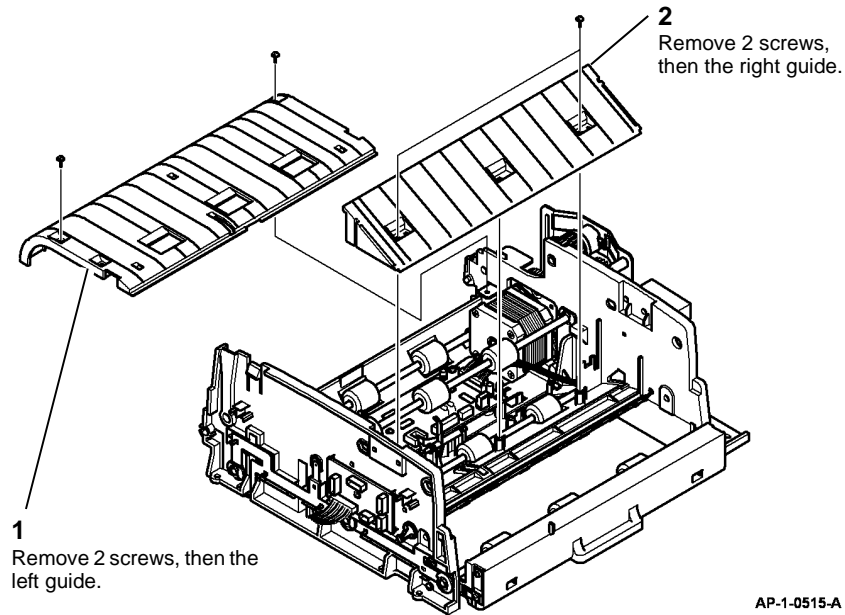

Figure 17 Guide removal
18. Remove the guides, Figure 17.